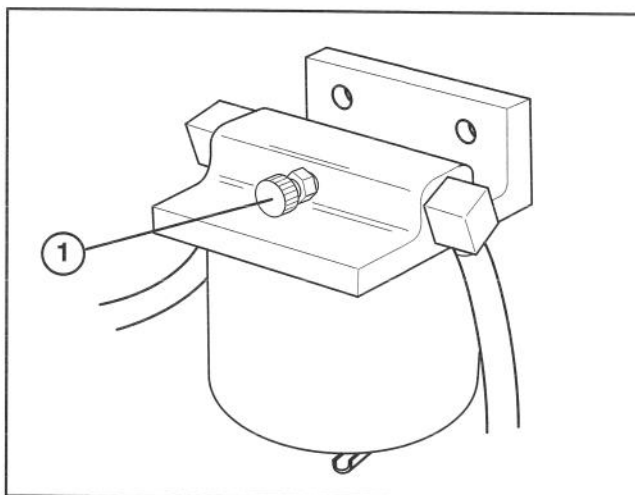

Figure 32
BLEEDING FUEL SYSTEM (Fig. 32 & 33)
- 2. Loosen air bleed screw on top of fuel filter/water separator (Fig. 32).